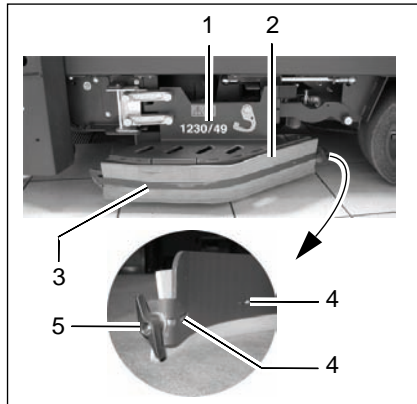

Fig. 35
The deflector (Fig. 35/1) must be fixed in its service position (refer to Section 2.3.1, Point 1).
1. Unscrew the wing nut (Fig. 35/5) at the end of the deflector.
2. Slide the clamping rail (Fig. 35/3) in the vehicle's driving direction (forwards) until the clamping rail hooks (Fig. 35/4) are freed and the clamping rail (Fig. 35/3) can be removed away from the vehicle.
3. Remove the old rubber deflector strips (Fig. 35/2).
4. Position the new rubber deflector strips (Fig. 35/2) in place.
5. Mount the clamping rail (Fig. 35/3) from the outside and slide back by hand so that the clamping rail hooks (Fig. 35/4) engage.
Screw the wing nut (Fig. 35/5) on the thread at the end of the clamping rail (Fig. 35/3), thus tightening the clamping rail (Fig. 35/3).